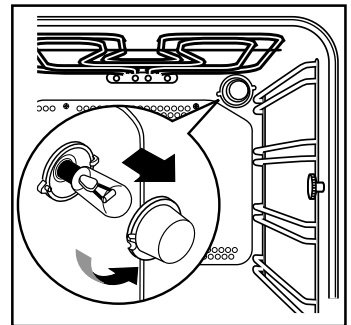

Fig. 18
2. Turn the glass cover anticlockwise (Fig. 18).